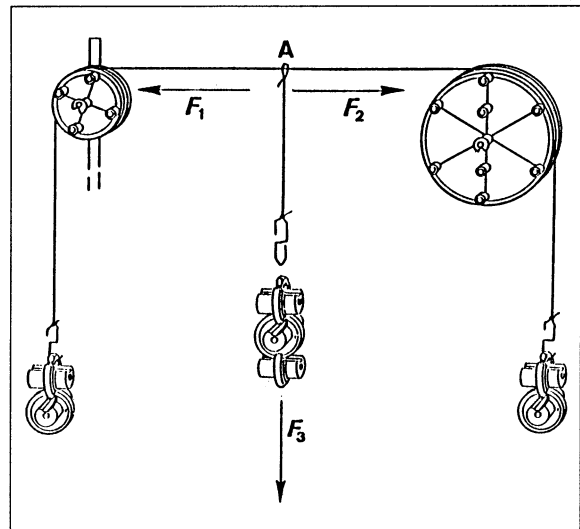

Fig. 3 Experimental setup for investigating different forces acting on a static point A.
▶ Fig. 3.
12. In fig. 3, the force due to weight $F_3 = 0.5 \text{ N}$ is shown as an arrow (vector) 5 cm long.